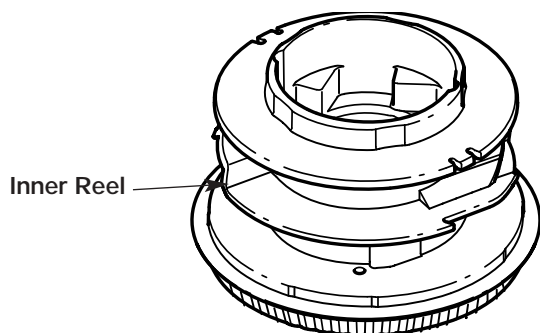

Fig. 23
4. Remove any existing line from the inner reel before cleaning. Remove any debris or grass from the knob, spring, inner reel and foam seal. Wash the inner reel with warm soapy water (Fig. 23).